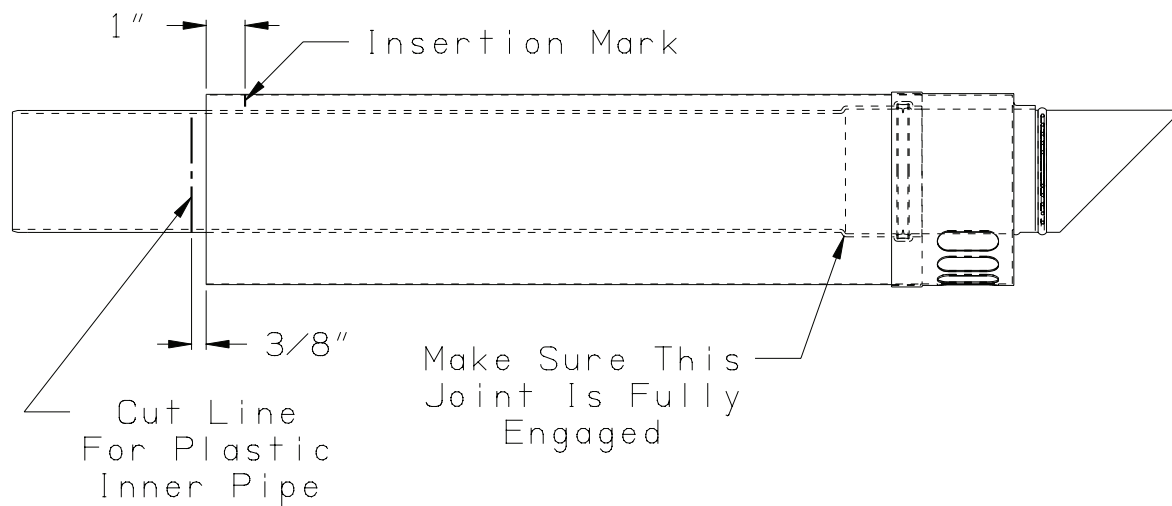

FIGURE 7.33c: CUTTING INNER PIPE OF 80/125mm HORIZONTAL TERMINAL
- f) Reinstall the plastic inner pipe in the terminal, making sure that the female end of this pipe is completely bottomed out over the aluminum male connection visible behind the air intake grill. Place a mark on the plastic inner pipe 3/8" beyond the end of the outer pipe (Figure 7.33c). Use a fine tooth hacksaw or a PVC saw to cut the plastic pipe and be careful to cut the pipe square (if necessary, the plastic pipe can be removed from the terminal again for cutting). De-burr the cut edge of the plastic pipe with a file, razor blade, or fine sandpaper.
- g) Make a mark on the terminal section 1" from the cut end of the outer pipe as shown in Figure 7.33c.